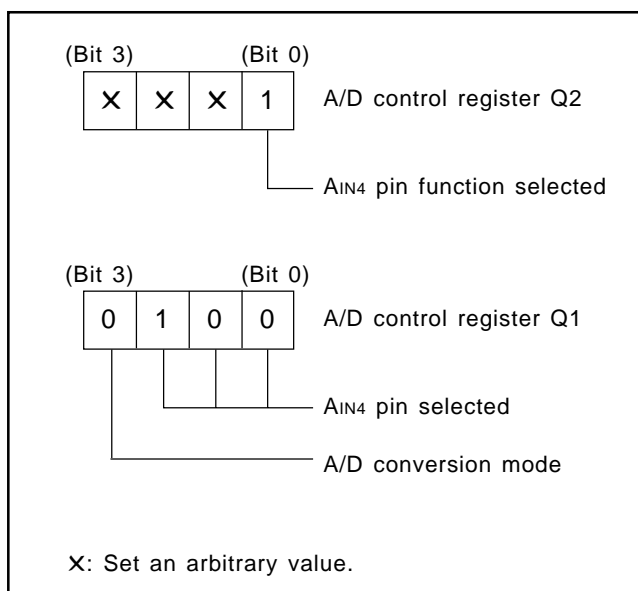

Fig. 35 Setting registers
- ① Select the AIN4 pin function with the bit 0 of the register Q3. Select the AIN4 pin function and A/D conversion mode with the register Q1 (refer to Figure 35).
- ② Execute the ADST instruction and start A/D conversion.
- ③ Examine the state of ADF flag with the SNZAD instruction to determine the end of A/D conversion.
- ④ Transfer the low-order 2 bits of converted data to the high-order 2 bits of register A (TALA instruction).
- ⑤ Transfer the contents of register A to M (Z, X, Y) = (0, 0, 2).
- ⑥ Transfer the high-order 8 bits of converted data to registers A and B (TABAD instruction).
- ⑦ Transfer the contents of register A to M (Z, X, Y) = (0, 0, 1).
- ⑧ Transfer the contents of register B to register A, and then, store into M(Z, X, Y) = (0, 0, 0).